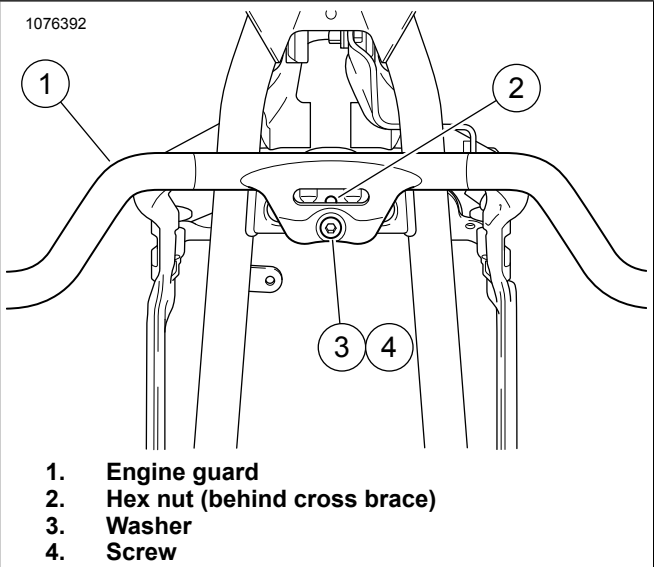

Figure 3. Engine Guard Mounting Flange (Top Center)
4. See Figure 3. Hold the engine guard (1) in place, lining up the hole in the top center mounting flange of the guard with the hole in the cross brace located between the front downtubes just below the steering head.
5. Install a flat washer (3) onto screw threads and insert screw (4) through the holes from the front. Thread hex nut (2) onto the screw. Tighten finger-tight.